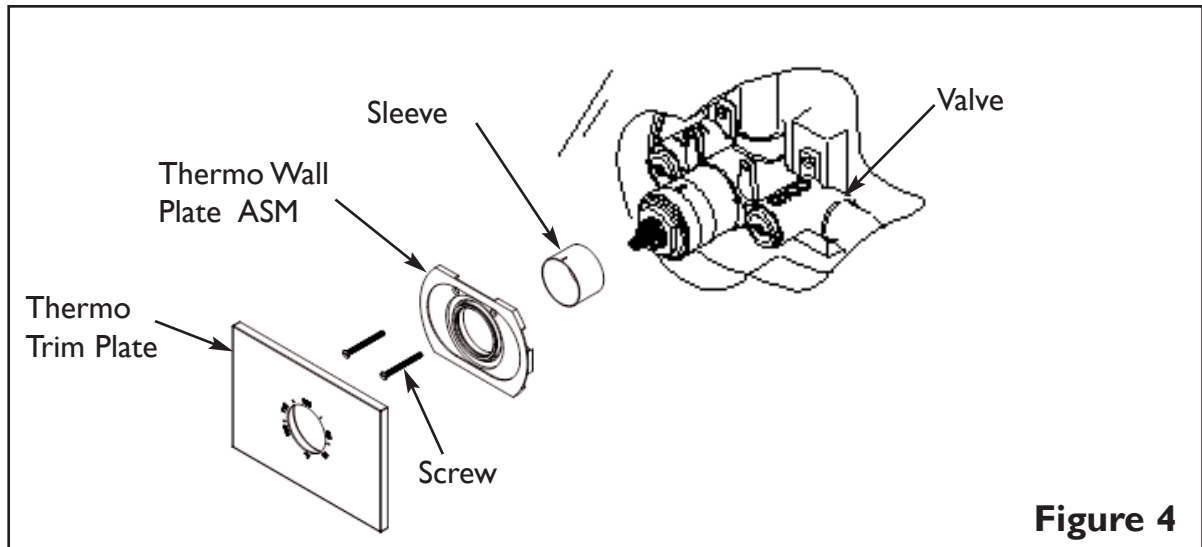

Figure 4
- Slide Thermo wall plate with gasket over sleeve and attach with decorative screws provided, Slide Thermo Trim Plate over sleeve, aligning 100° to notch in sleeve.(see **Figure 4**).